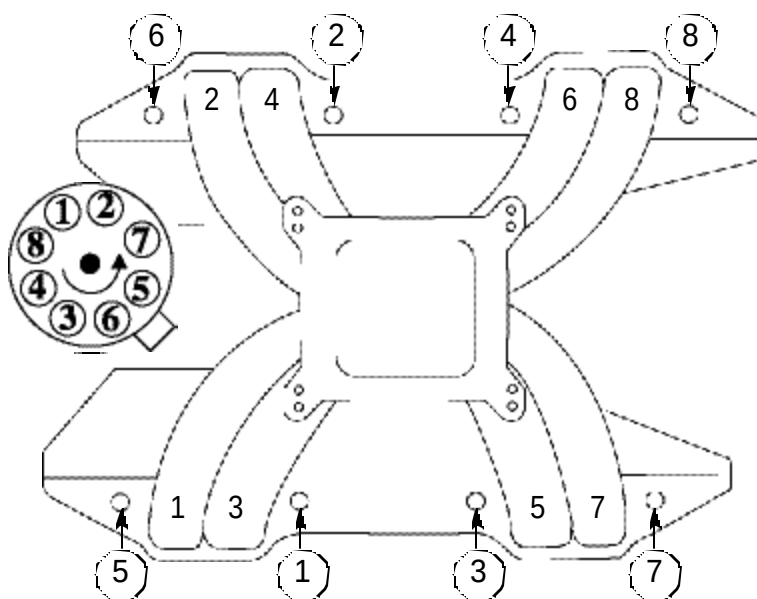

Figure 1 - 400-426-440 c.i.d. Chrysler Intake Manifold Torque Sequence
5. Torque all of the manifold bolts in two steps by the sequence shown in *Figure 1* to 25 ft/lbs.